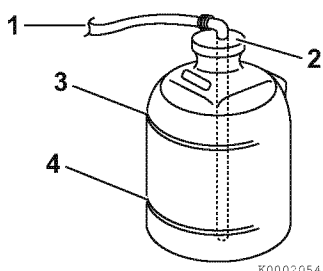

Figure 9
5. Remove the coolant recovery tank cap (2, **Figure 9**) and fill with coolant mix to the lower limit (4, **Figure 9**). Replace cap. Never fill to the upper limit (3, **Figure 9**).
6. Check the rubber hose (1, **Figure 9**) connecting the coolant recovery tank to the heat exchanger. Be sure the hose is securely connected and there is no looseness or damage.